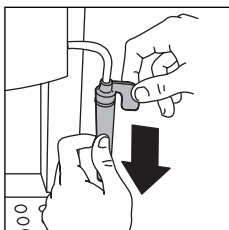

fig. 23
3. Remove the nozzle from the steam tube by pulling it downwards (fig. 23). **Note: Metal of steam pipe may be hot!!!**